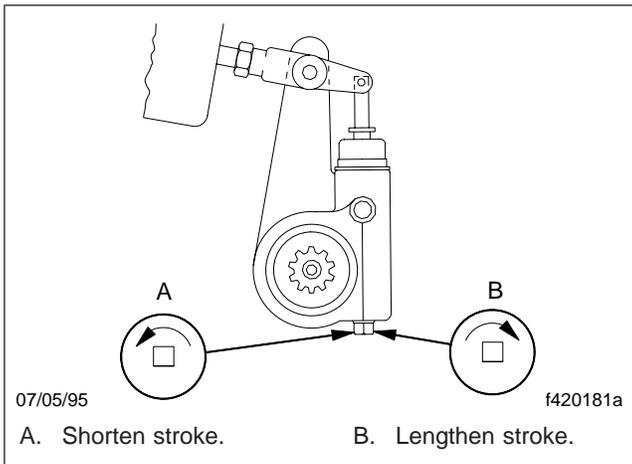

Fig. 8, Adjusting the Stroke
4. Using the manual adjusting nut on the slack adjuster, adjust the brake chamber stroke (coarse adjustment), as follows. See **Fig. 8**.
free-stroke should be 1/2 to 5/8 inch (13 to 16 mm). If it is not, turn the adjusting nut 1/8 turn, as shown in **Fig. 8**. Then, measure the free-stroke again; readjust it until it is correct.
If the applied chamber stroke is incorrect, turn the adjusting nut 1/8-turn counter-clockwise to shorten the stroke, or 1/8-turn clockwise to lengthen it. See Fig. 8. Measure the applied stroke again and readjust it until it is correct.